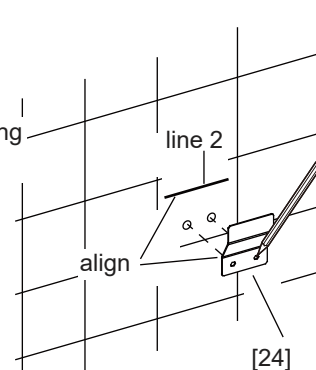

Fig 1.3
- 1-3** Position the **Bracket [24]** on the wall with its lower corners aligned with line 2 and center with the center line between the outlets. Then mark the wall through the screw holes of the **Bracket [24]**. (Fig 1.3)